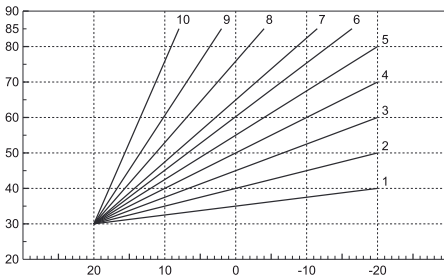

fig. 24 - Compensation curves
- **Curves:** select this item and use "+" and "-" DHW side (  $\overline{1\overline{0}}$  ) to per select the required curve from 1 to 10. By setting the curve to 0, the sliding temperature adjustment is disabled (see fig. 24 - Compensation curves).